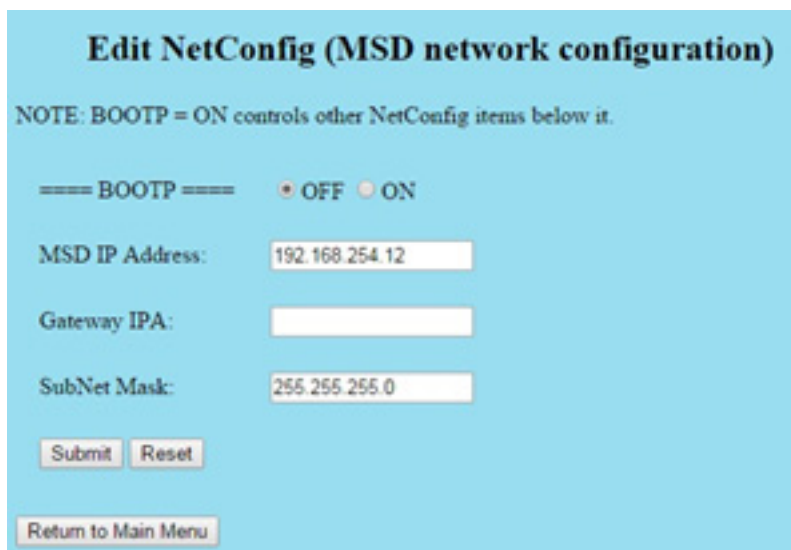

Figure 22. WUI Edit NetConfig
- 5 Click **Set Real-Time Clock or Edit NetConfig**, and go to **Edit NetConfig (MSD network configuration)**. (See Figure 22.)